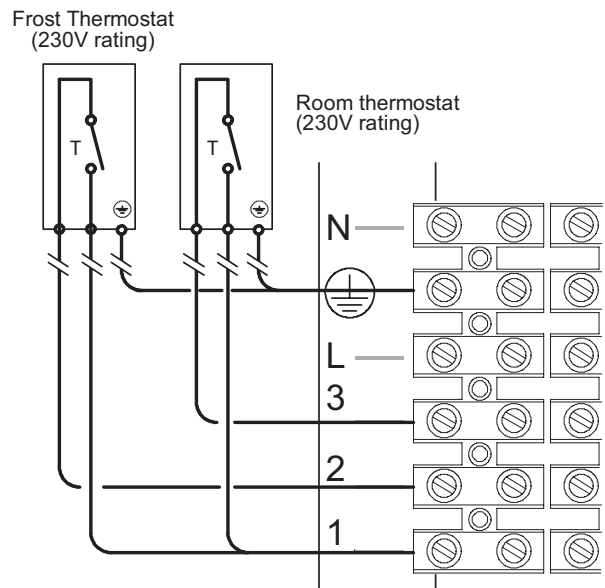
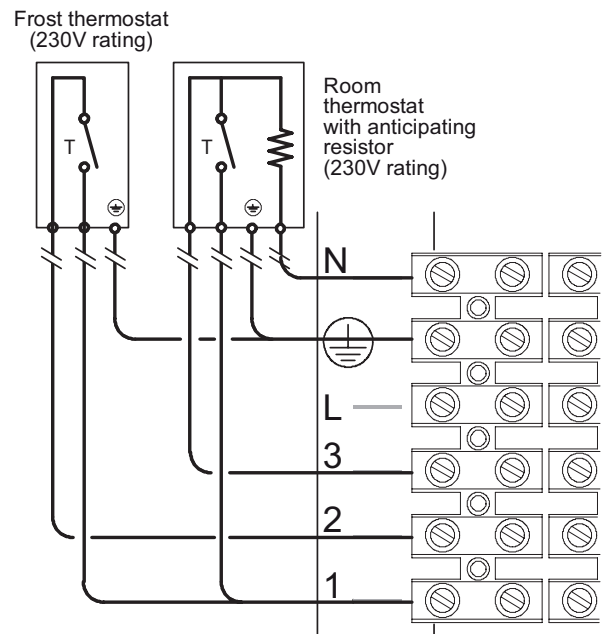

Fig. 6.26
Fig. 6.27
- Connect the frost thermostat between terminals 1 and 2 as shown in Fig. 6.26 or Fig. 6.27.